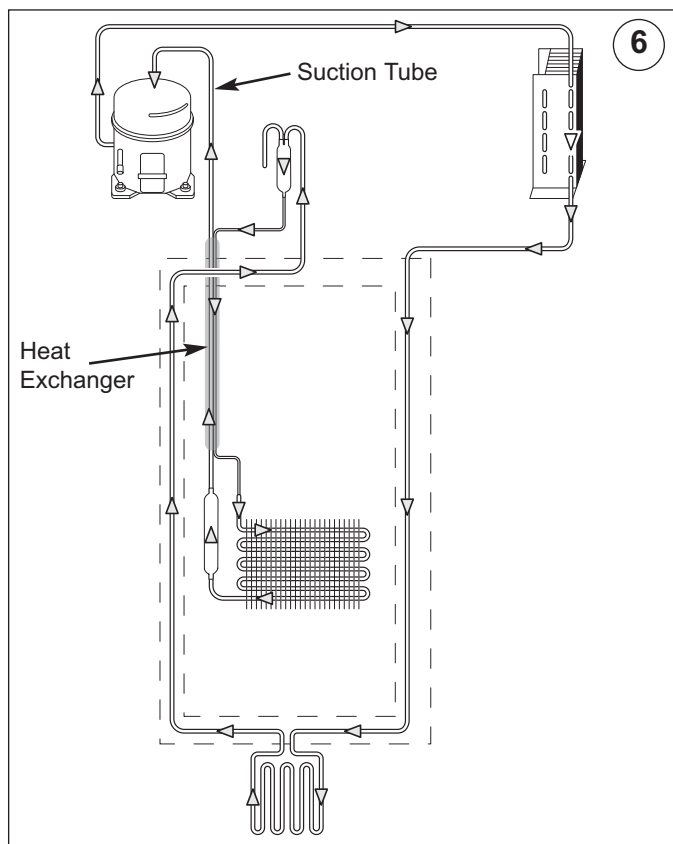

Figure 4-6. Suction Tube (Part of Heat Exchanger)
(6) - Suction Tube (& Heat Exchanger) (Figure 4-6)